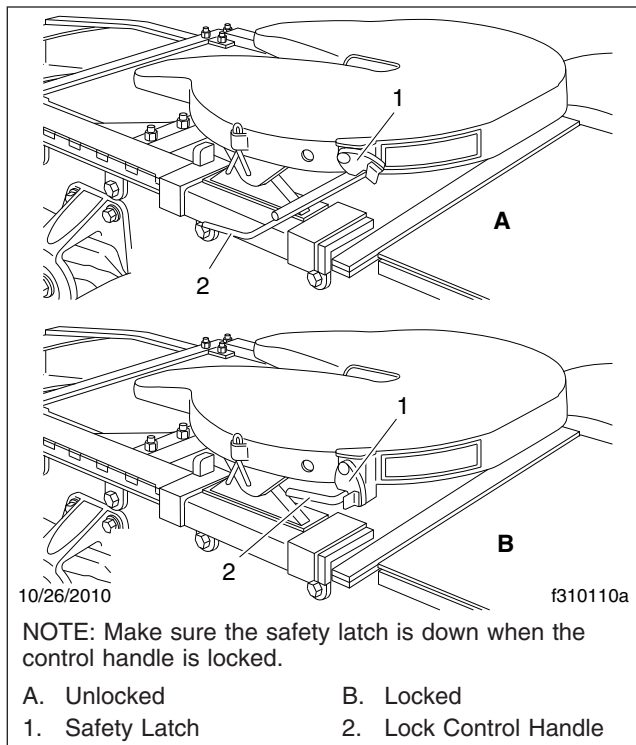
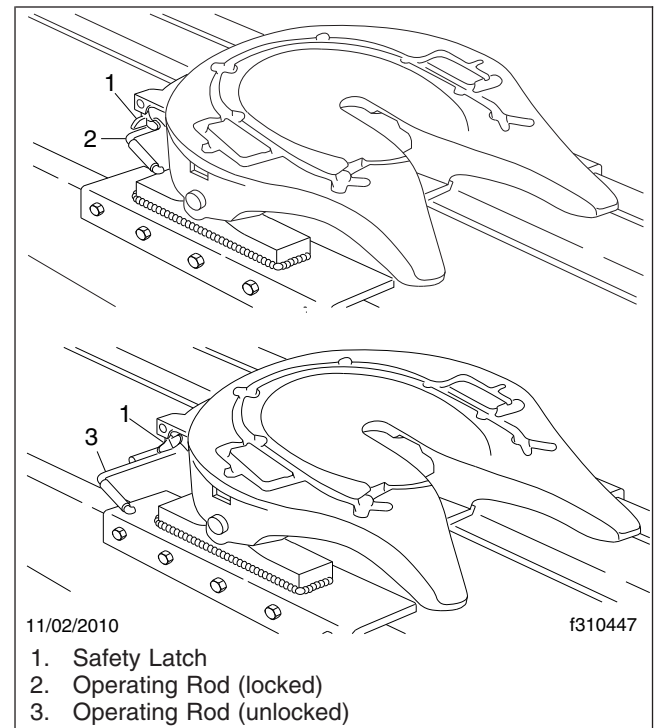

Fig. 17.2, Fontaine Locking Mechanism
Fig. 17.3, Holland Simplex SE Locking Mechanism
2. Ensure the fifth wheel jaw is fully open and the operating rod is in the unlocked position. See Fig. 17.2 or Fig. 17.3.
When lockup has occurred, the fifth wheel control handle moves to the locked position. Make sure that the safety latch is down over the lock control handle to hold the control handle in the locked position. (The safety latch will only rotate down if the operating rod is fully retracted in the locked position.) See Fig. 17.2 for Fontaine fifth wheels. See Fig. 17.3 for Holland fifth wheels.
- Fontaine:** Lift the safety latch and pull the lock control handle to the unlocked position. See Fig. 17.2.